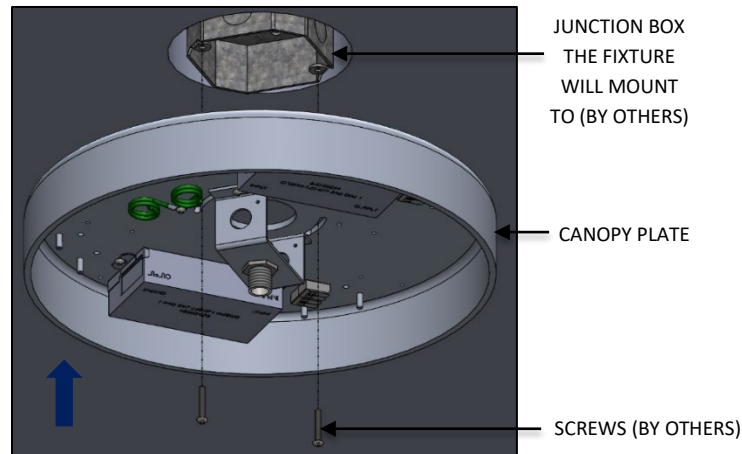

FIG. 15 – CANOPY ASSEMBLY INSTALLATION
2. Assemble the CANOPY ASSEMBLY to the JUNCTION BOX (by others) with screws (by others) through the slot available at the center of CANOPY ASSEMBLY as shown in FIG. 15 below.